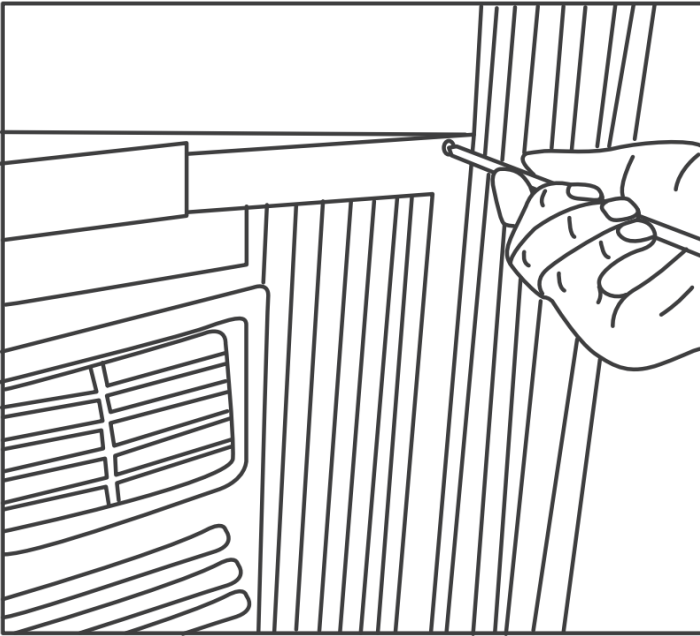

Fig.11
- Drive 1/2" screws into the top of the accordion panel frame and the top rail to securely attach the window air conditioner to the lower sash. **(See Fig.11 Fig.12)**